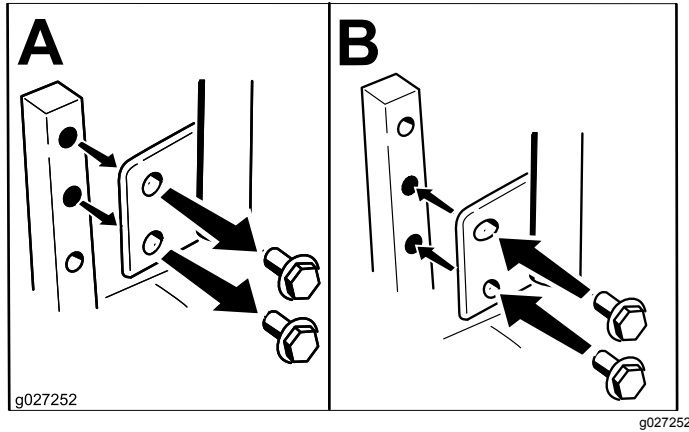

Figure 22
The motion control levers can be adjusted higher or lower for maximum operator comfort (Figure 22).
2. Loosen the lower bolt just enough to pivot the control lever fore or aft (Figure 22). Tighten both bolts to secure the control in the new position.